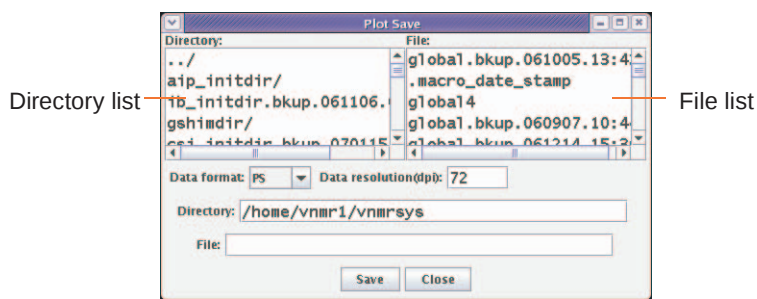

Figure 31. Plot Save Window
1. Click on **File** in the Main Menu, then **Save Data** to open the Plot Save window shown in **Figure 31**.